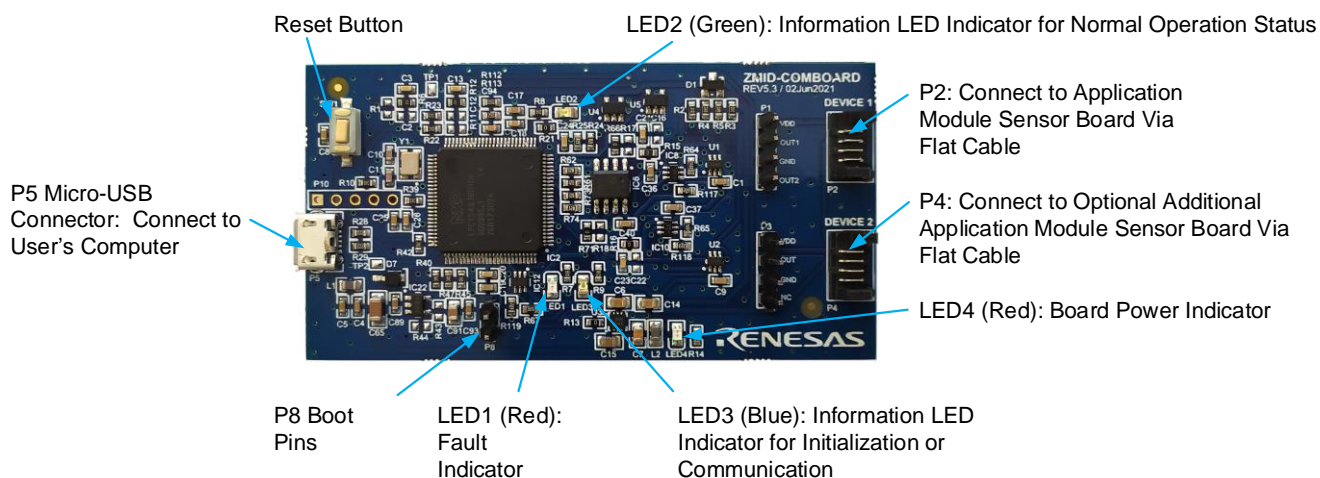

Figure 3. ZMID-COMBOARD – Overview
Note: See Figure 3 for the components referenced in this table.
5. The indicator LED2 on the ZMID-COMBOARD will light (see Figure 3) if conditions are normal. This indicates that the board is ready to communicate with the *ZMID4200 EVKIT Application Software*. The D1 LED on the *ZMID4200 Application Module* (see Figure 4, Figure 5, or Figure 6) also lights when the board is powered on.